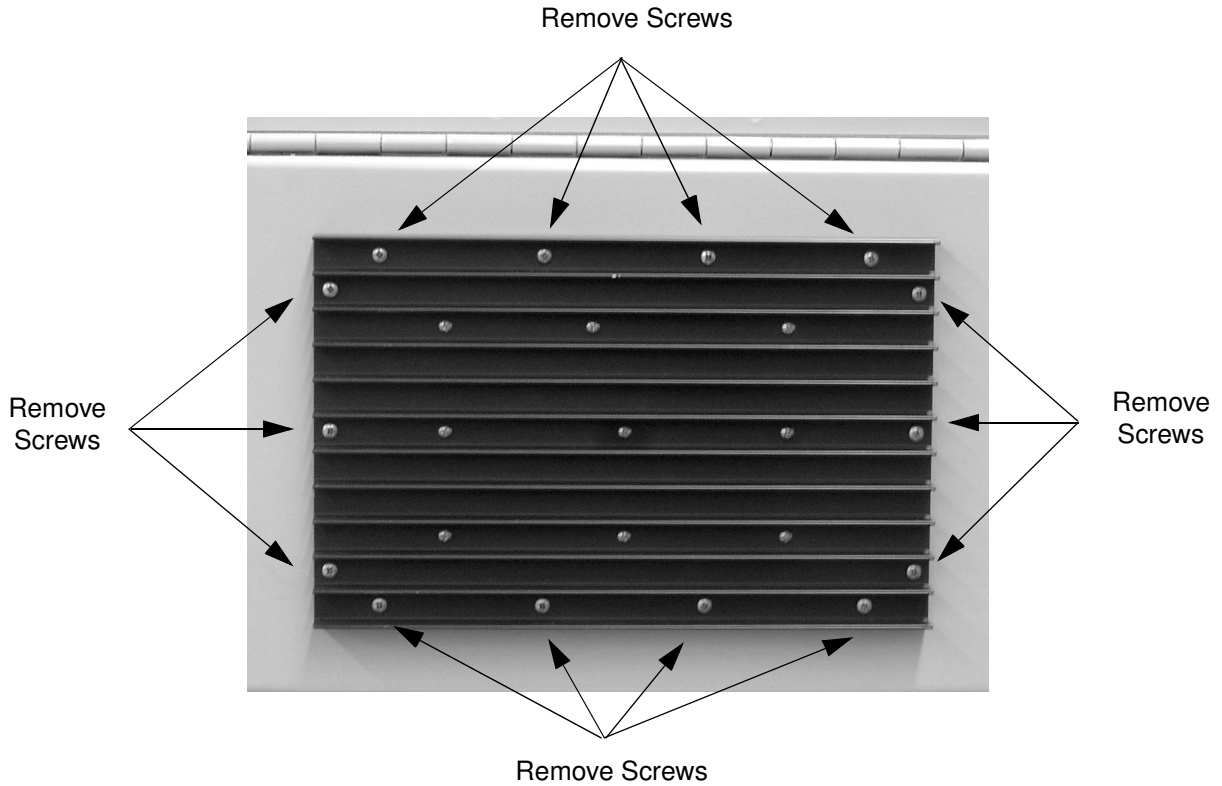

Figure 10: Remove 14 mounting screws to detach amplifier assembly from cabinet.
- 1) Remove the Phillips screws which hold the amplifier into place, refer to **Figure 10**. The nuts holding the screws are pressed into the cabinet and will remain in place when the screws are removed.